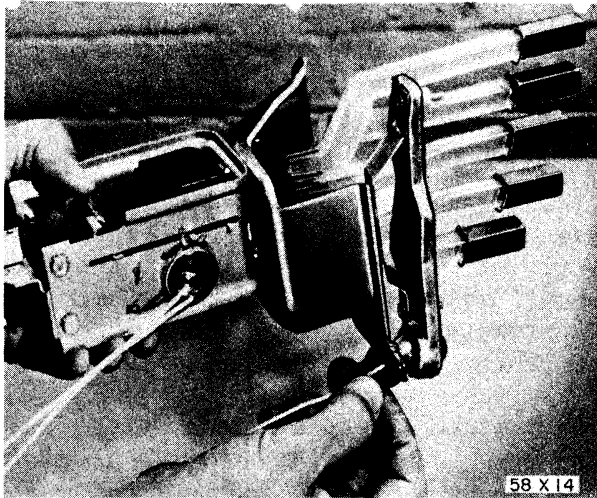

Fig. 26—Illuminating Lamp Bulb Installation—Imperial Models
**NOTE:** Illuminating lamp bulb and light conductor (Fig. 26) are fastened to the gearshift housing support bracket and need not be removed with the housing.
On Imperial models, the bulb and socket are positioned in the light conductor, as shown in Figure 26. It is necessary, therefore, to reach behind the instrument panel to remove the bulb and socket. After replacing bulb, snap socket into light conductor as shown in Figure 26.